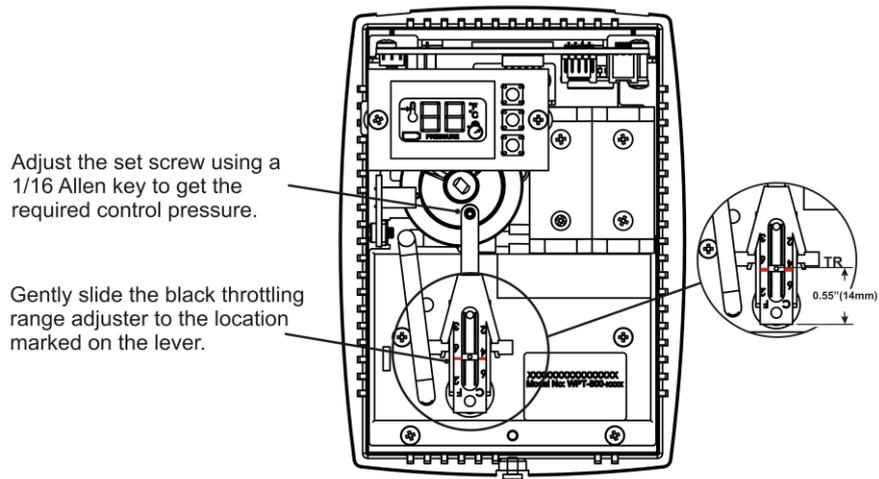

Figure 7- Calibrating the thermostat
4. The black throttling range adjuster has been factory set to the location marked on the lever as shown in Figure 7. The factory setting provides a Throttling Range of about 5F. The TR adjuster is very sensitive and should not be moved more than ± 0.100 " from Factory Setting. The Bi-metallic strip can be damaged if enough care is not taken while moving the throttling range adjuster. Use a gentle nudging motion on the throttling range adjuster, without exerting force on the Bi-metal strip as this type of force will likely damage the Bi-metallic strip.
7. Use a 1/16" hex Allen wrench and very carefully turn the calibration set screw on the thermostat lever as shown in figure 7, until the branch pressure reads around 8 PSI.